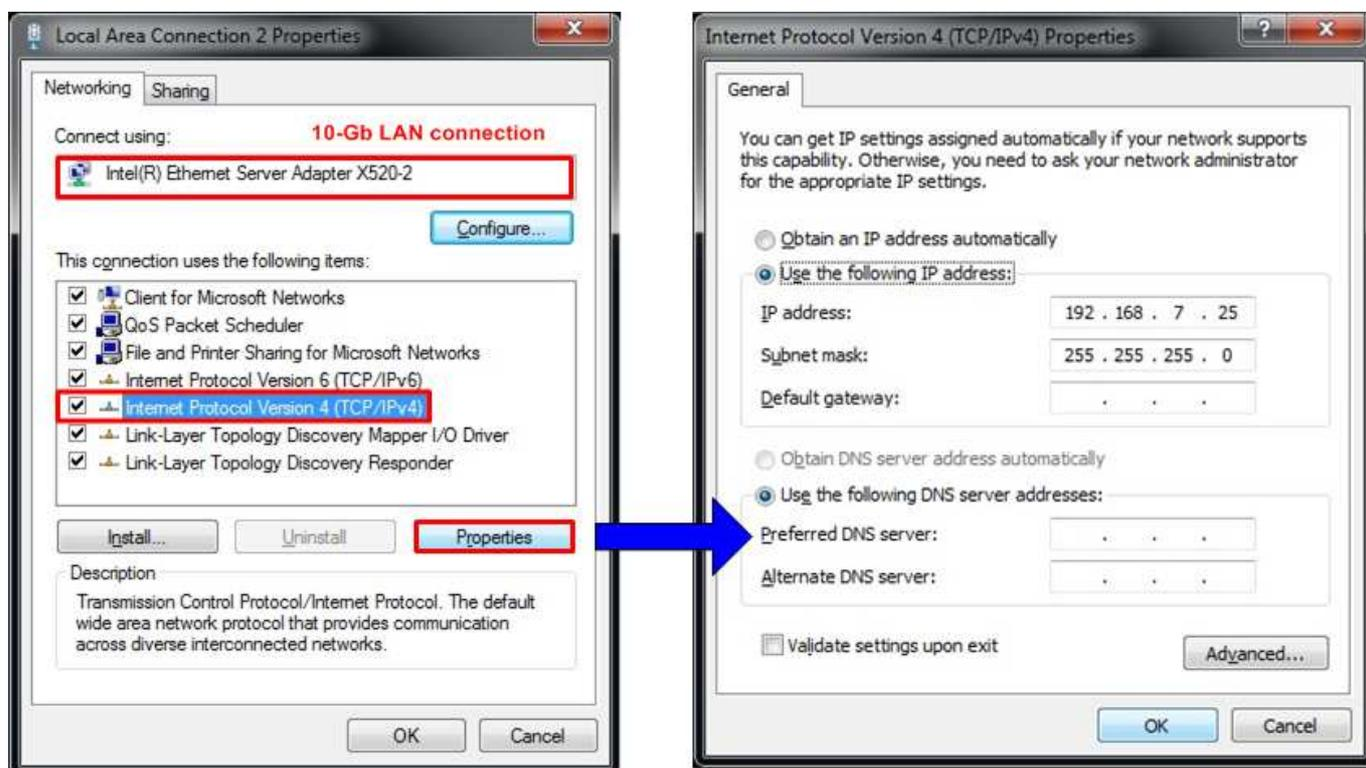

Figure 4 IPv4 Setting
- Open Local Area Connection Properties of 10-Gb connection, as shown in left window of Figure 4.
- Set IP address = 192.168.7.25, and Subnet mask = 255.255.255.0, as shown in right window of Figure 4.